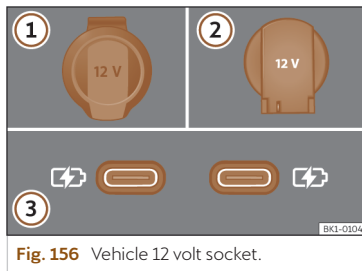

Fig. 156 Vehicle 12 volt socket.
>>> Fig. 156
Depending on the equipment and the country, the vehicle may also have USB connections **exclusively for charging or as a power socket** >>> Fig. 156 ③.